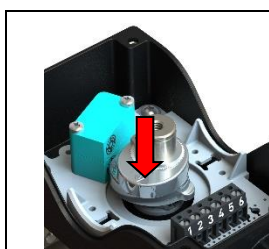

Fig. 2: Setting of cams
- a. Bring the actuator in the desired end position 1. Adjust the lower cam first. Press the cam down and turn it into the position in which it actuates the switch. Now let the cam engage again with the gearing. (Fig. 2)